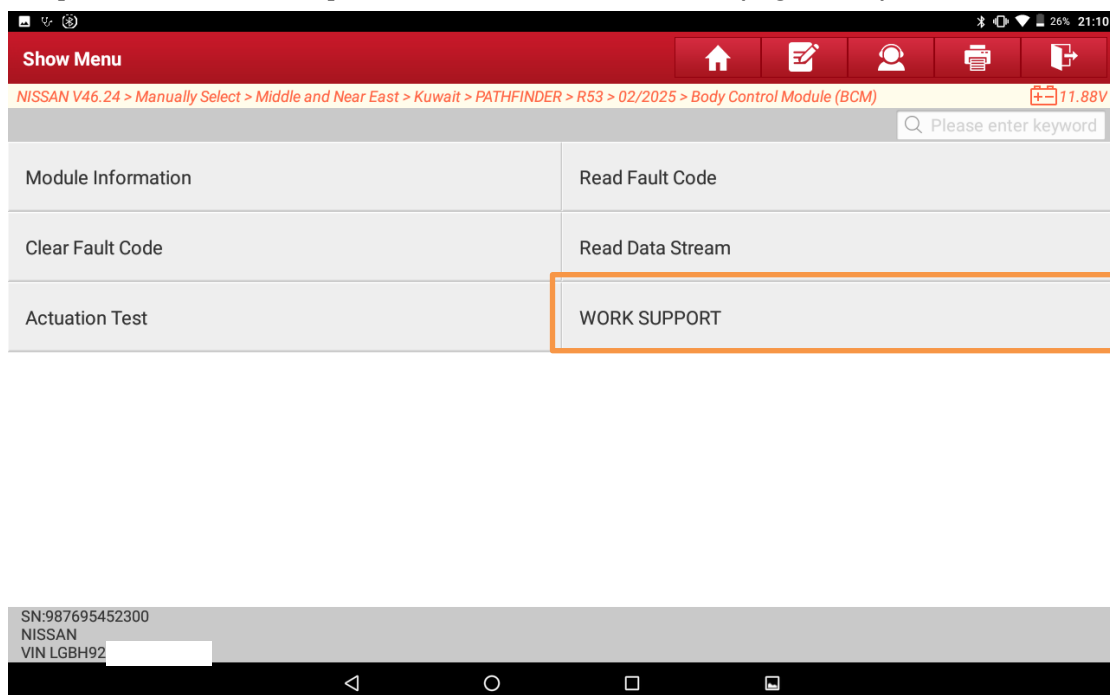

Figure 10
5. On the BCM menu interface, choose [WORK SUPPORT] to enter the [WORK SUPPORT] menu interface of the BCM (Figure 10).